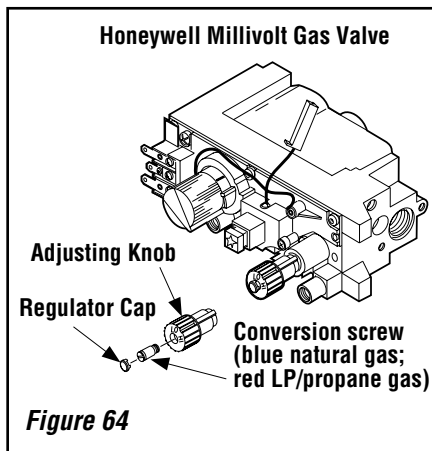

Figure 64
a. Convert the gas valve as follows (see **Figure 64**): Remove the plastic protecting cap. Remove the gas type setting screw by turning it counterclockwise. Obtain the replacement gas type setting screw from the kit and screw it into place (red for propane and blue for natural gas). Tighten the gas type setting screw by turning it clockwise. Replace the plastic protecting cap.